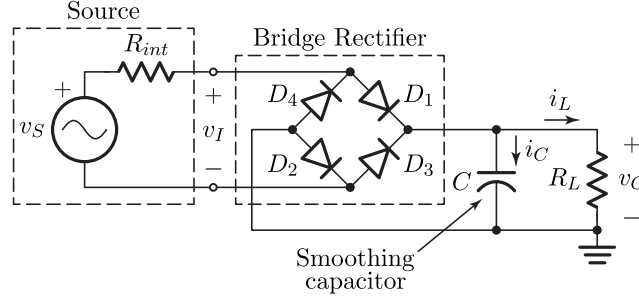

Figure 3: Bridge rectifier with smoothing capacitor.
P4. Consider the circuit of Figure 3, which is a bridge rectifier with a smoothing capacitor. Assume that the diodes are 1N4148 diodes, v_S has a 500- Hz symmetrical sinusoidal waveform with a magnitude of 16V peak-to-peak, and $C = 1\mu F$. Then, calculate the average (DC) and peak-to-peak ripple of the output voltage assuming that $R_L = 5.6k\Omega$. For this exercise, ignore the source resistance (i.e., consider R_{int} to be a short link). Show all the work. Complete Table 1.